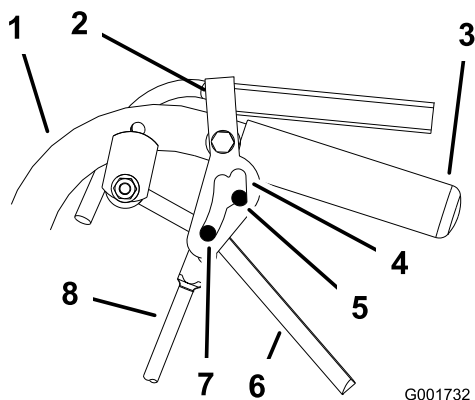

Figure 43
- Release and engage neutral lock checking that the tire does not rotate (Figure 43). Continue this process until the tire does not rotate.